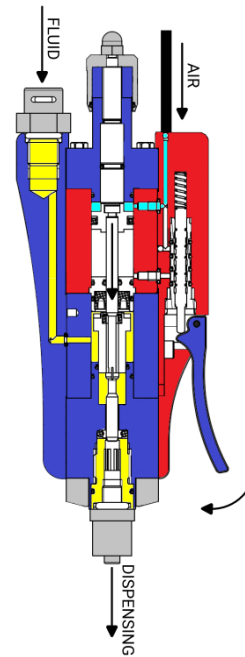

Figure 04 – Dosing phase
- At the end of the stroke, the needle stops and closes the fluidic chamber and the nozzle, preventing further fluid from escaping (Figure 04);